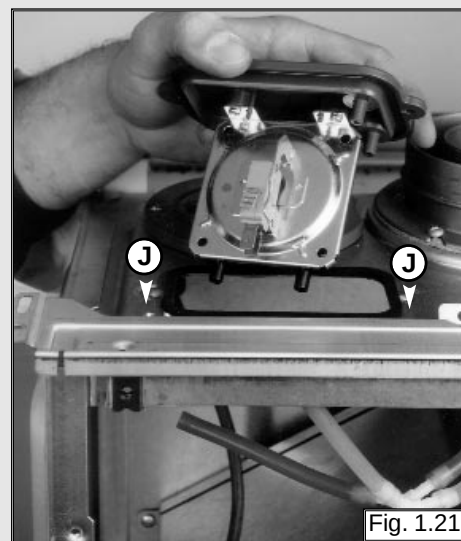

Fig. 1.21
2. Remove screws "J" on the top of the sealed chamber (see fig. 1.21); Use a No. 2 star tip screwdriver to remove the switch from the plate.